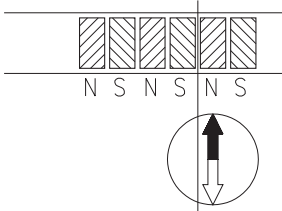

Fig. 17: Determination of the pole position. Cutting the magnetic strip
- If necessary, use a compass needle to determine the location of the poles on the magnetic strip (fig. 17).